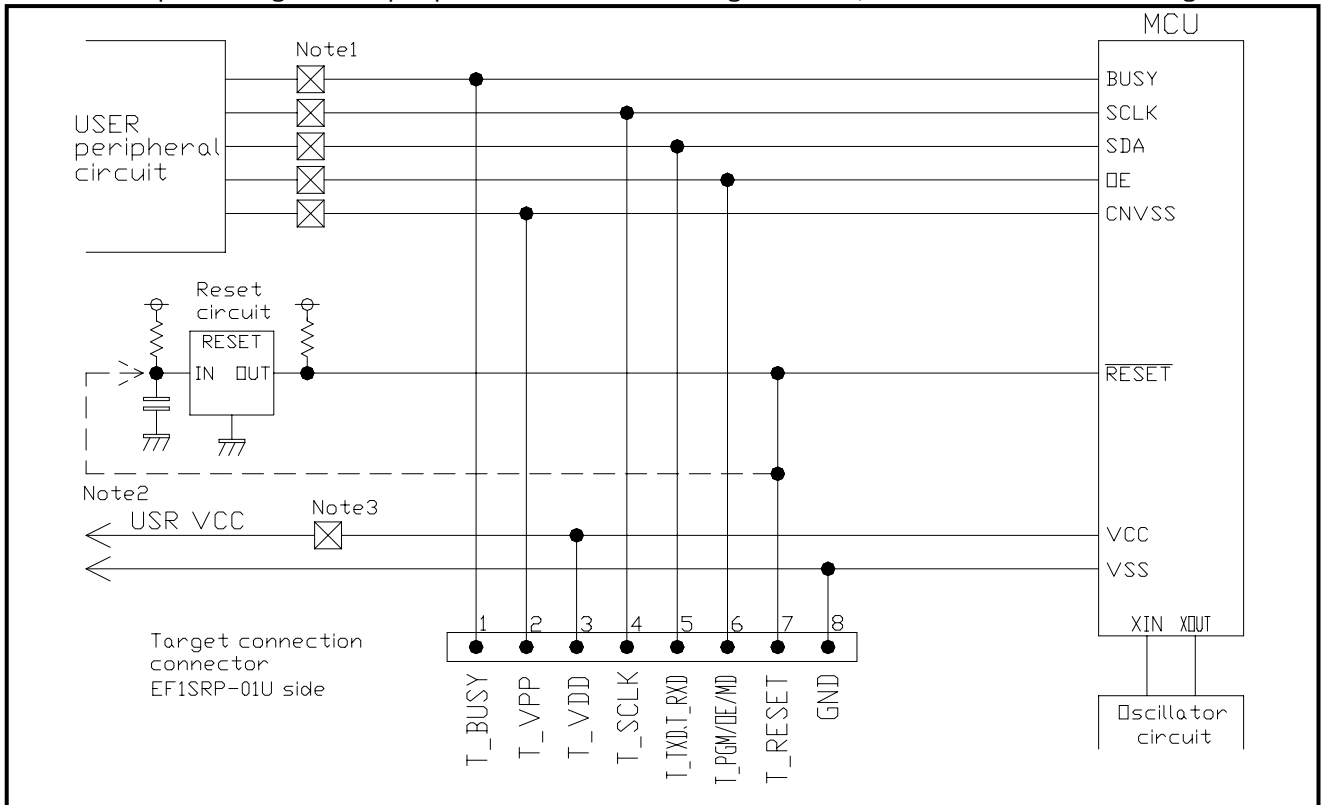

Fig. 4.1: Target MCU Peripheral Circuit Example
(1) An example of target MCU peripheral circuit when using the 3803,3804 series is shown in Fig. 4.1.